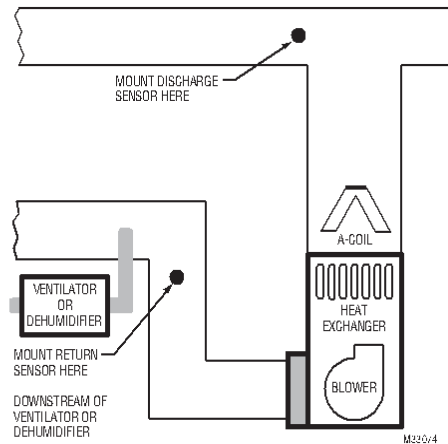

Fig. 1.
Refer to the guidelines below and Fig. 1–5 for mounting locations of the Discharge and Return Air Temperature Sensors.
1. Mount the Discharge Air Temperature Sensor on the supply duct in a location where the air is mixed well. Mount the Discharge Air Temperature Sensor out of sight of the A-Coil/Heat Exchanger when possible. See Fig. 1.
1. Install the Return Air Temperature Sensor on the return duct in a location where the air is mixed well. Mount the Return Air Temperature Sensor downstream of a Bypass Humidifier, Dehumidifier or Ventilator. See Fig. 1–5.
1. Refer to Fig. 1–5 for the placement of the Discharge and Return Air Sensors.